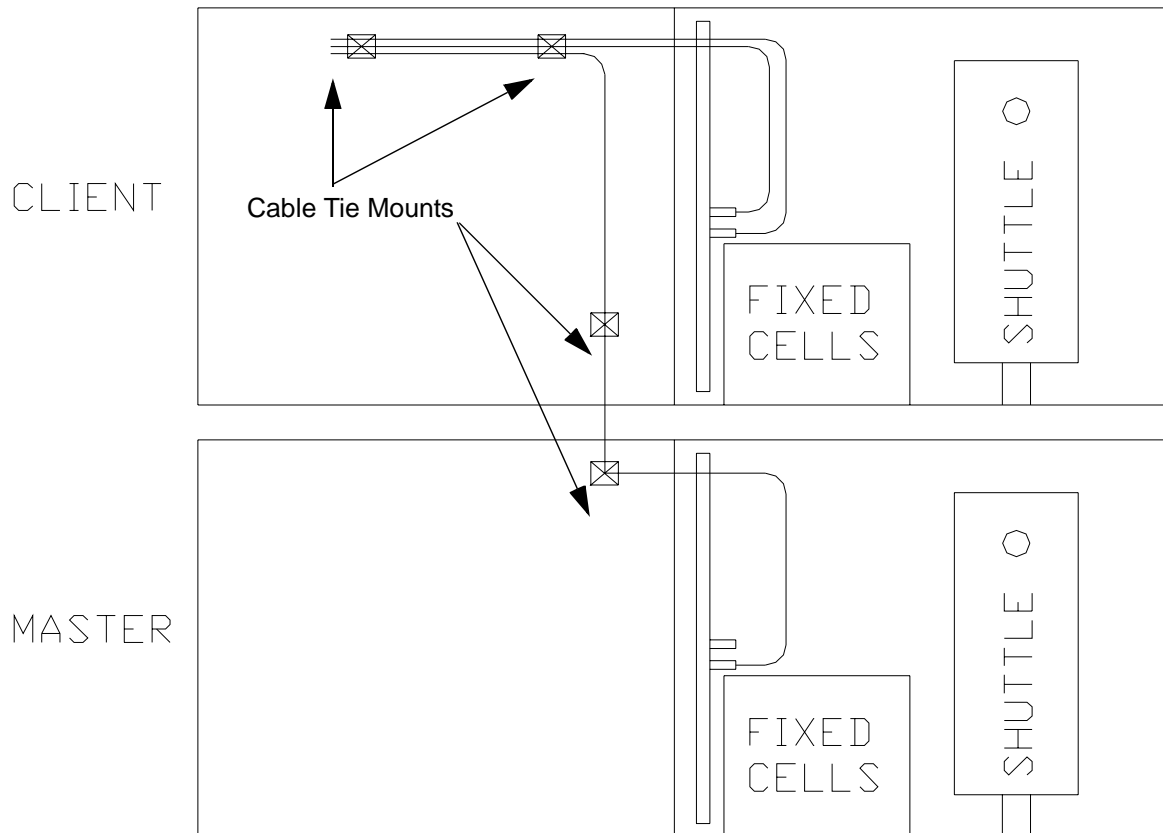

Figure 20. Cable Routing for PassThru Installation
11. Secure the communication cable to the power module wall of the MASTER unit with the cable tie down provided with the PassThru kit. See **Figure 20.**
13. With a tie down provided, secure the communication cable to the power module wall of the CLIENT unit to keep the cable away from the elevator as shown in **Figure 20**.
6. Secure the P7 and P6 cable from the CLIENT and the communication cable from the MASTER to the power module wall of the CLIENT unit with two tie downs (provided with the PassThru kit and displayed in **Figure 20.**)